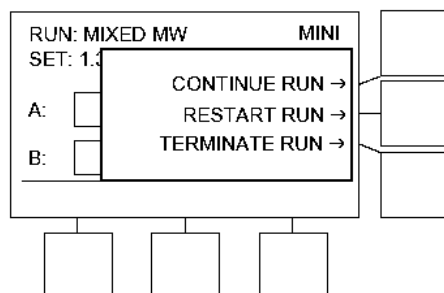

Fig. 14. Trans-Blot Turbo System Terminate Run screen.
**Note:** A run can be paused by pressing the corresponding A: STOP or B: STOP navigation button during the run. The user has a choice to continue from the time point of the pause, restart the run from the beginning, or terminate the run (Figure 14.)